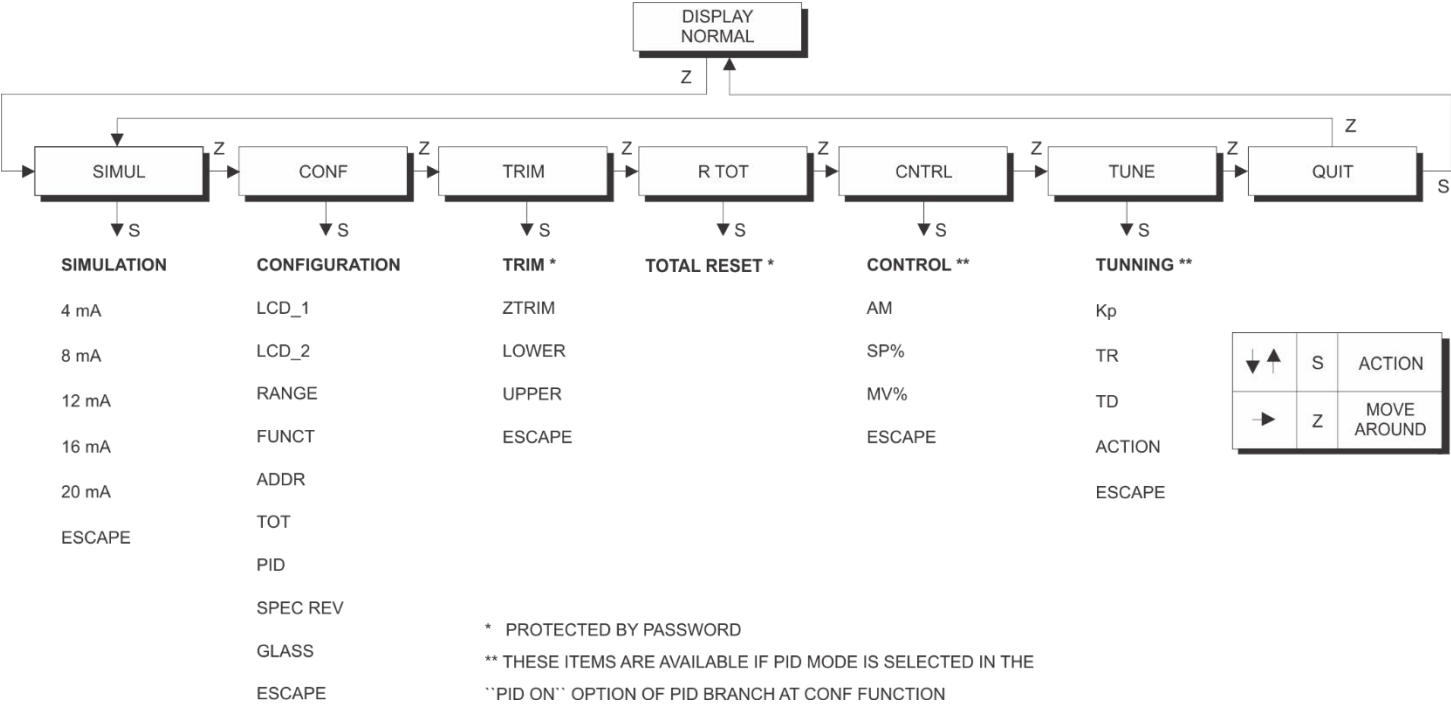

Figure 4.3 – Local Adjustment Programming Tree – Main Menu
- 2 - In order to reach the desired option, browse the options, wait until they are displayed and move the magnetic tool from **(Z)** to **(S)**. Refer to Figure 4.3 – Local Adjustment Programming Tree, in order to know the position of the desired option. By placing the magnetic tool once again in **(Z)**, it is possible to browse other options within this new branch.
The local adjustment uses a tree structure where, by placing the magnetic tool in (**Z**) it is possible to browse the options of a branch and, by placing it in (**S**); details of the chosen option are shown. Figure 4.3 - Local Adjustment Programming Tree shows the **LD301** available options.
From version 7.00.00 of LD301 the local adjustment tree has been changed to that shown in figure 4.3.